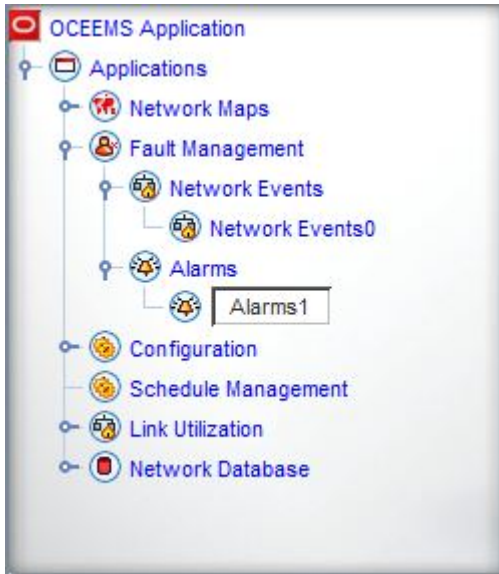

Figure 132: Entering a New Name for a Custom View
3. Type the new name for custom view as shown in Figure 132: Entering a New Name for a Custom View, and press **Enter**.